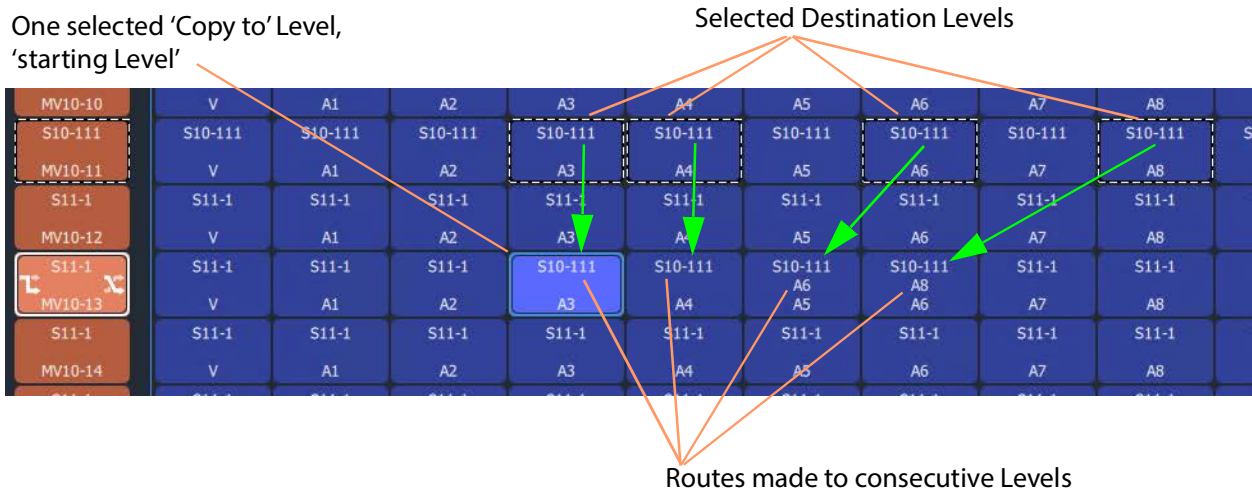

Fig. 13-87: Result of CTRL-V Paste
- 1 Select Destination Levels and copy them. For example, A3, A4, A6 and A8, see Figure 13-87.
See Figure 13-87 for the result of CTRL-V paste from the copied Destination Levels.